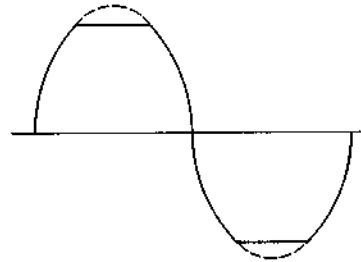

Fig. 2
- Gradually increase the output of the audio oscillator until the wave form on the oscilloscope (See Fig. 2) begins to be clipped. Adjust the left channel potentiometer VR-201 (100 K Ω -B) and the right channel VR-251 (100 K Ω -B) so that both upper and lower peaks of the wave forms begin to be clipped simultaneously at the same point of the curve. In case an audio oscillator or an oscilloscope is not available, adjust Potentiometer VR-201 (L. ch.) and VR-251 (R. ch.) so that the voltage between the plus side of the large capacity condenser which is connected to the speaker and ground is half of the supply voltage. At this time, the Volume Control Knob on the front panel should be kept at minimum position.